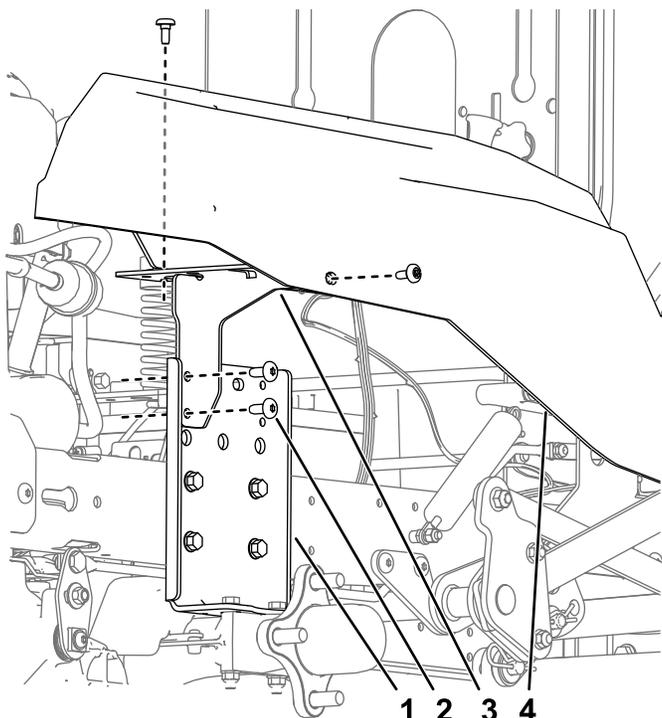

**Figure 2**
11. Remove the rear tires as shown in Figure 2.